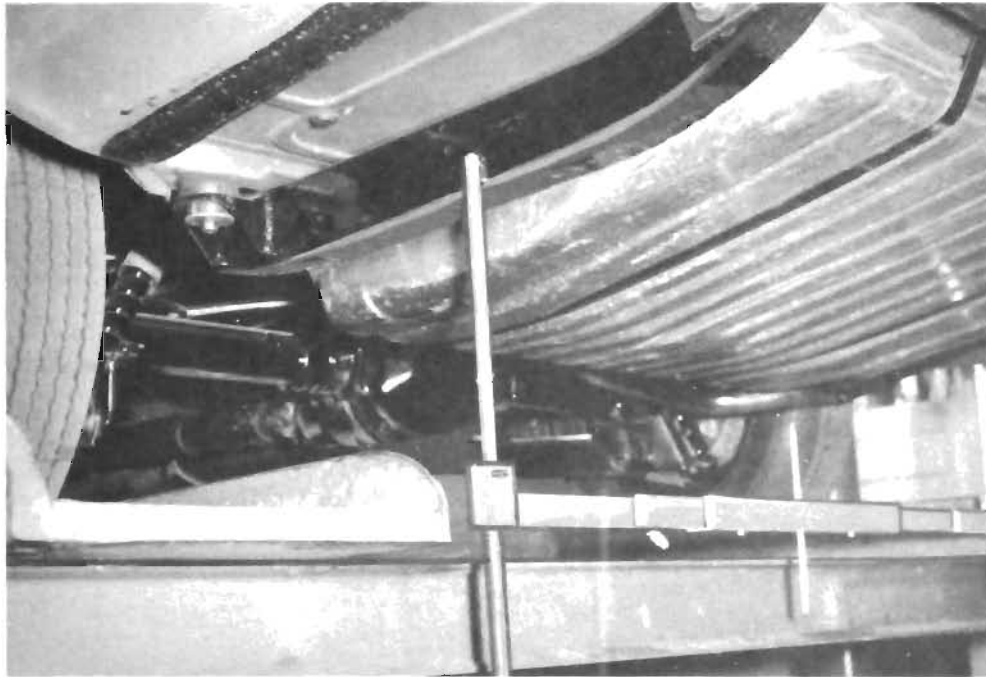

Figure 12-24—Centering Gauge Suspended from Holes in Frame Rear Horn Area
2. After the first two gauges are set, the third gauge may be suspended from either the front or rear frame horn areas, and adjusted vertically by sighting the alignment with the two center gauges. See Figures 12-24 and 12-25. The actual dimensions, front or rear, are found by measuring up from the top edge of the cross bar on the third gauge to the bottom surface of the frame rail above. After checking on one end is completed, the operation can be repeated in similar fashion on the opposite end.